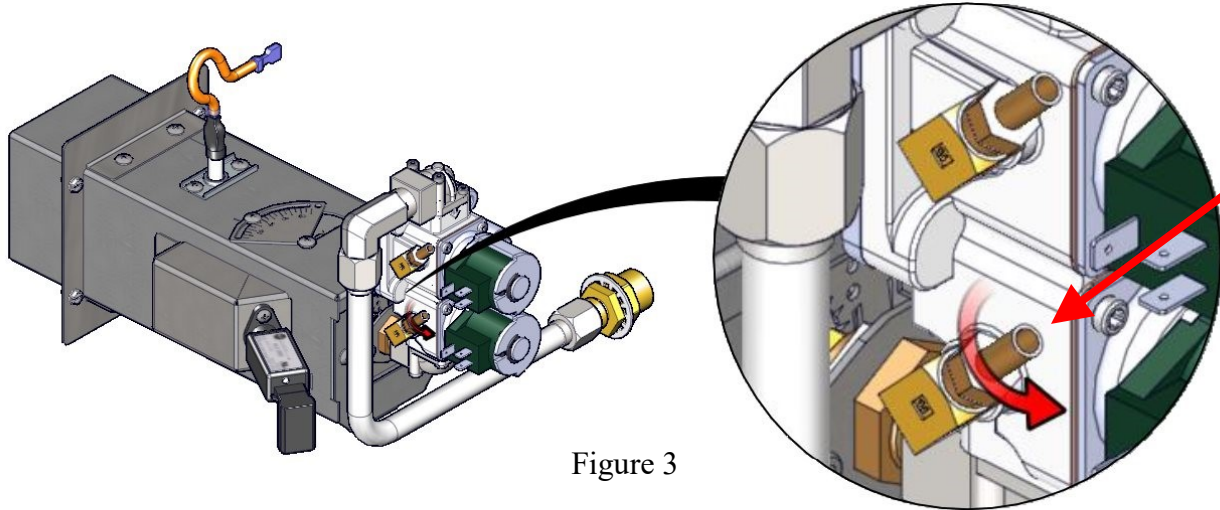

Figure 3
- Loosen adjustment screw one (1) full turn counter-clockwise (Figure 3).